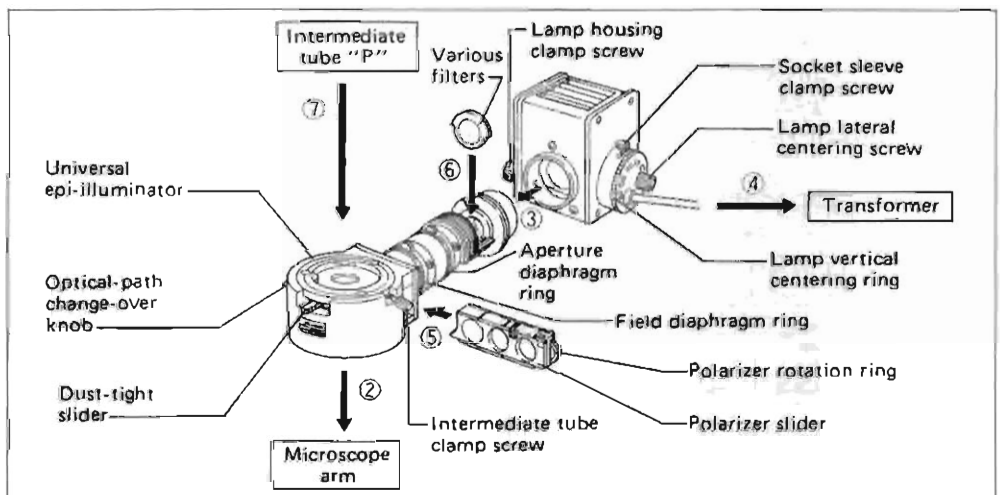

Fig. 26
- Referring to Fig. 26, assemble in the order given.